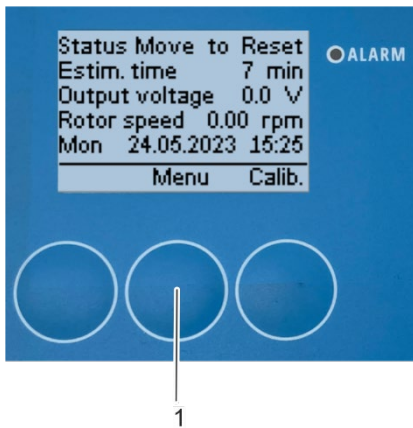
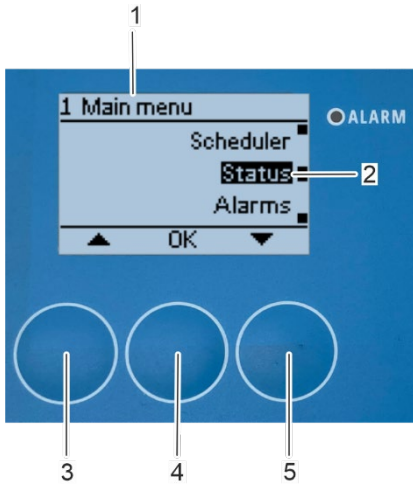

Fig. 171: Open main menu
Fig. 172: Open submenu "Status"
1. Press [Menu] (Fig. 171/1) to open the “1 Main menu” menu (Fig. 172/1).
⇒ The “1 Main menu” menu appears on the display (Fig. 172/1).
2. Select the "Status" submenu (Fig. 172/2) with the arrow keys [up] (Fig. 172/3) and [down] (Fig. 172/5).
3. Confirm the selection with [OK] (Fig. 172/4).